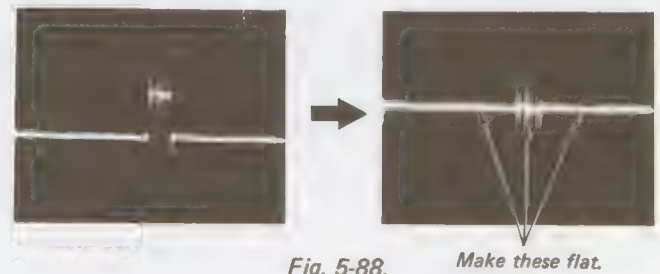

Fig. 5-88.
10. Adjust the SUB BRIGHTNESS control so that the TP-8 waveform becomes flat. (See Fig. 5-88.)